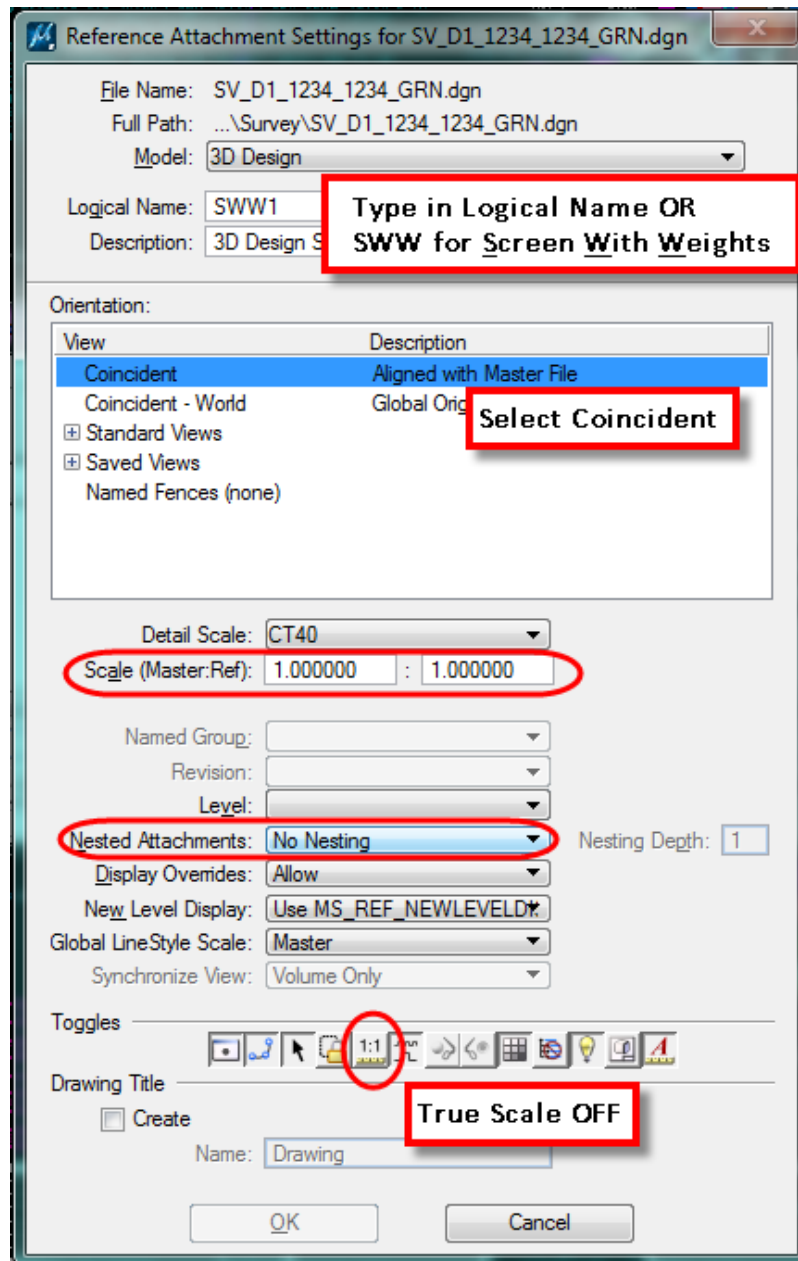

Figure 37 - Reference Attachment Settings
2. Browse to the **'Survey'** and/or **'Highway'** folders, highlight the file(s) and click **Open**. The **Reference Attachment Settings** dialog box opens (Figure 37).
Screen With Weights; the weights of the line styles within that file will be maintained, but color will be gray. If you want to screen multiple files, type in SWW1 – SWW 2 and so on. Select Coincident, Scale 1:1, No Nesting, and True Scale OFF. **Click OK.** See Figure 37.